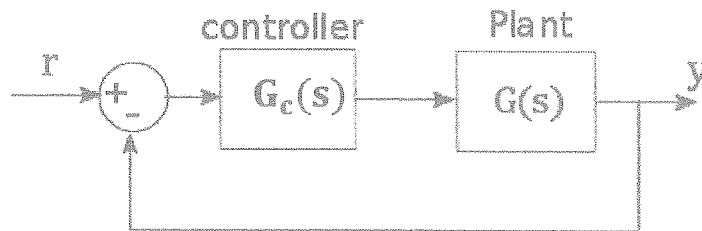

Figure Q4.
- b) Consider the unity feedback system shown in Figure Q4 where